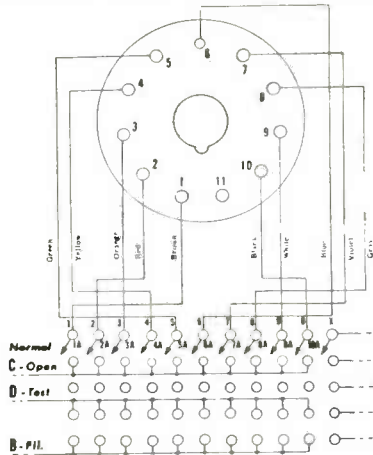

Fig. 8B—Schematic of accessory tube socket panel.
2. An 11 pin female connector with leads is provided with the kit. These leads are now wired to the points 1A through 10A as indicated in Fig. 8b. This prepares the tester to receive either socket panel by plug-in action.